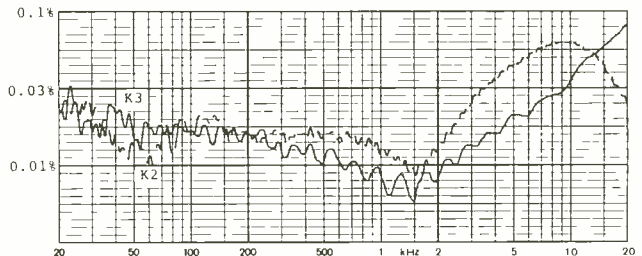

FIG 3d
**Fig 3d** is typical of the intermodulation distortion at high powers where the second order products are similar but the third order product has dropped below the instrumentation residual.